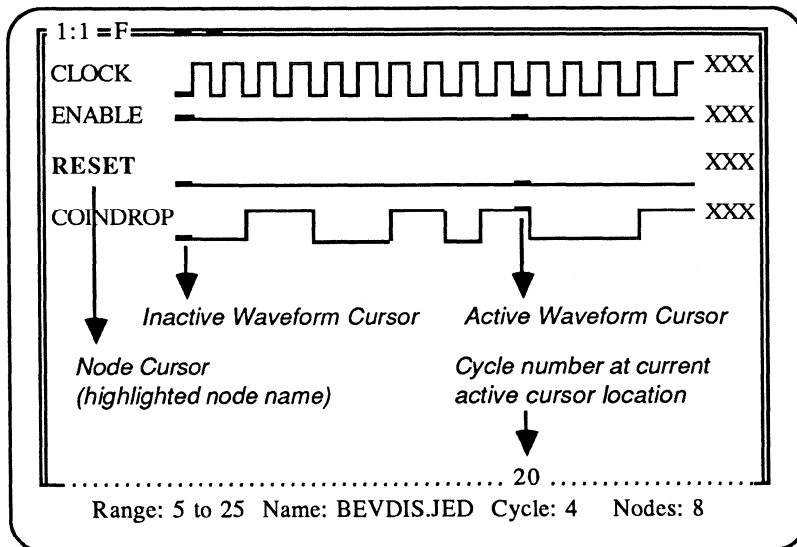

Figure LA-3. Node and Waveform Cursors
Three cursors, shown in Figure LA-3, are provided for panning:
*Example:* To move the node **COINDROP**, shown in Figure LA-3, so that it immediately follows **CLOCK**, you highlight **COINDROP**, press <Space>, move the node cursor to **ENABLE**, and then press <m>.